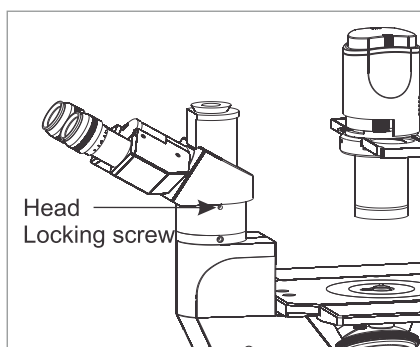

Fig. 11
1. Loosen the Head Locking screw using allen wrench 2.0mm (provided with the microscope) to such a position where it does not come out. See fig 11.